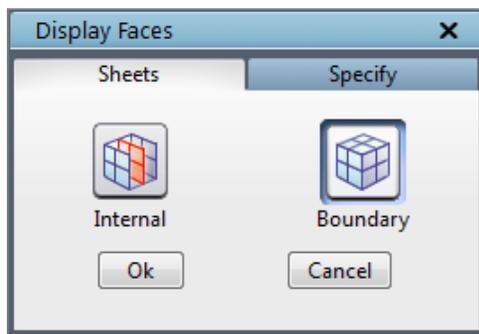

Figure 5.6: Faces dialog box
**Faces**  button is used to create sheet consist of all block faces on all the external grid surfaces. It creates grid sheets for all surfaces, displayed in different colors. Clicking on the Faces button opens a dialog box in the pop-up section as shown in Figure 5.6. To create grid sheets on external surface/boundary surfaces, use **Boundary** button in the **Sheets** tab of the **Display Faces** pop-up, similarly for internal surfaces use the **Internal** button. By default, the **Boundary** button is depressed.